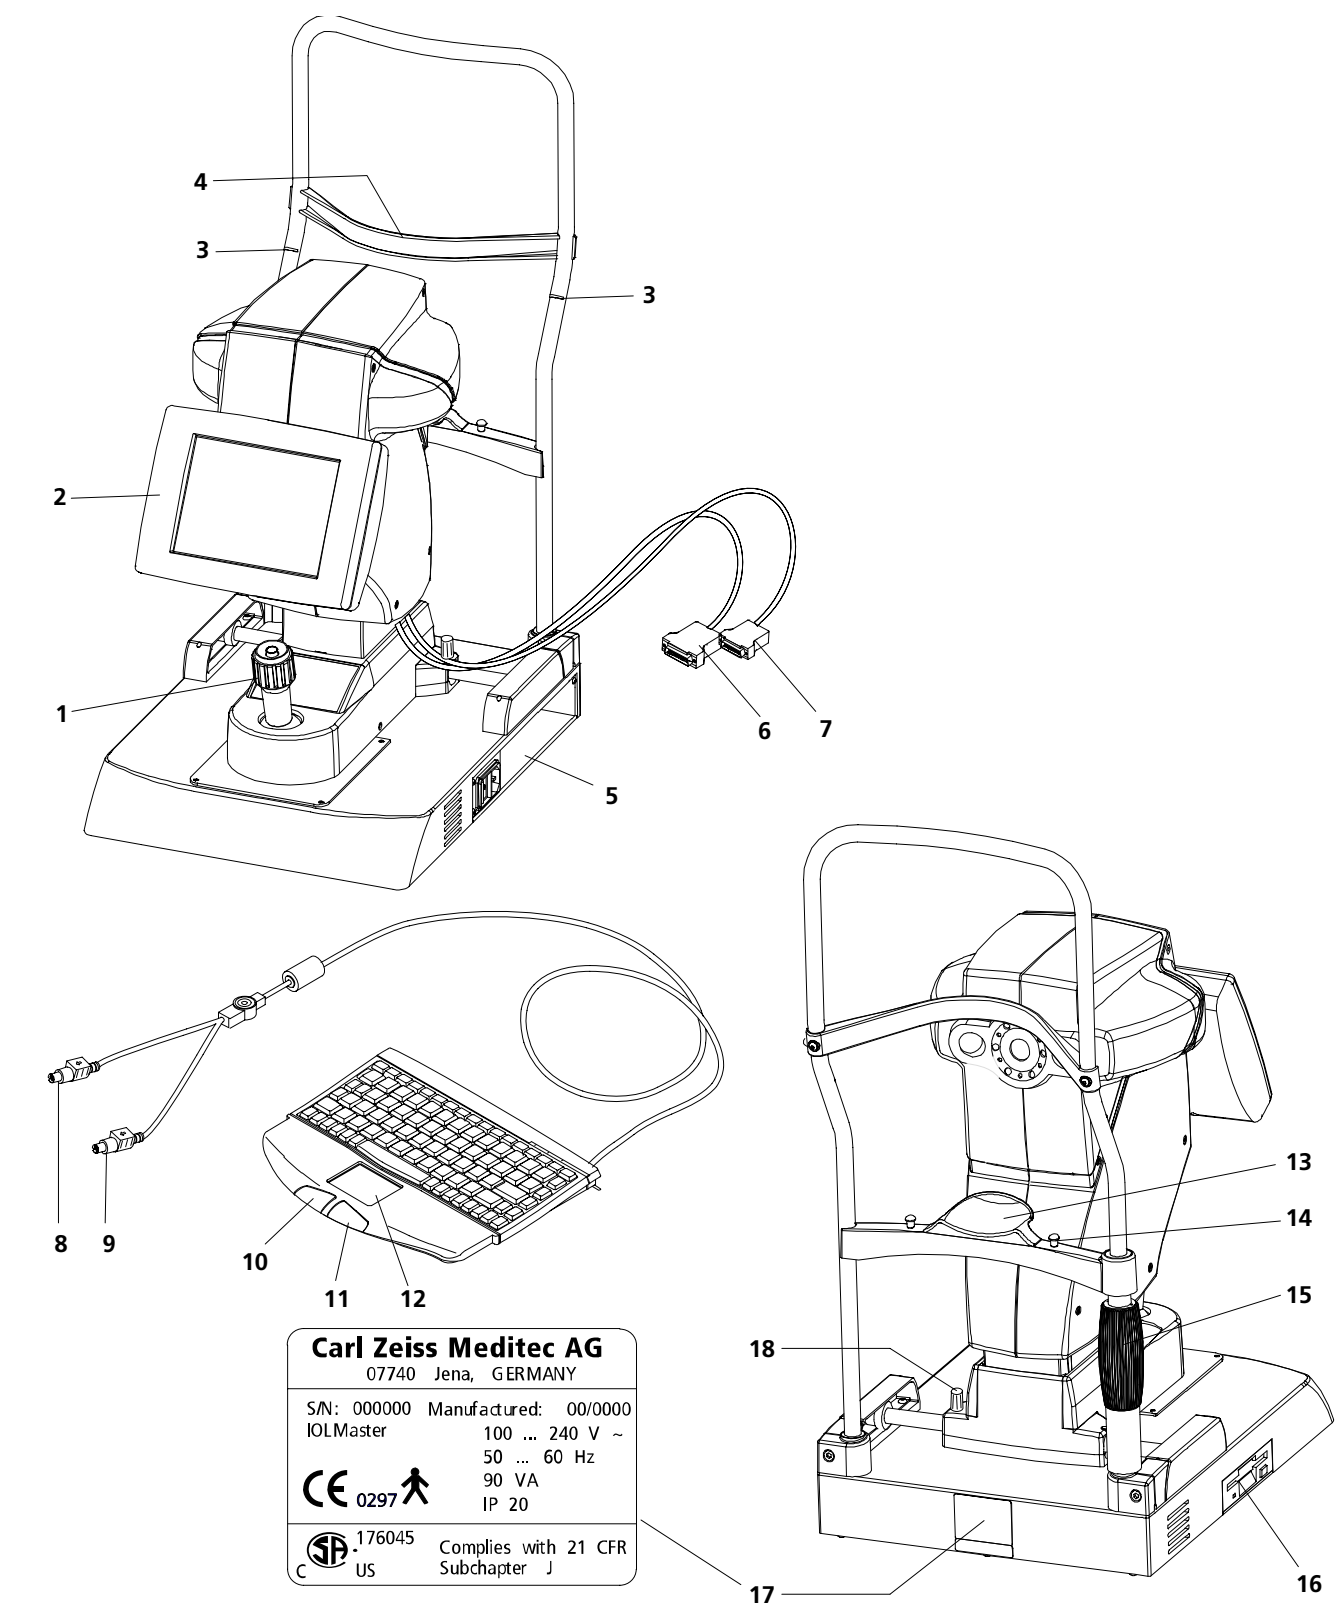

Fig. 1 Controls of the IOLMaster
- Loosen instrument lock knob (**18**, Fig. 1).